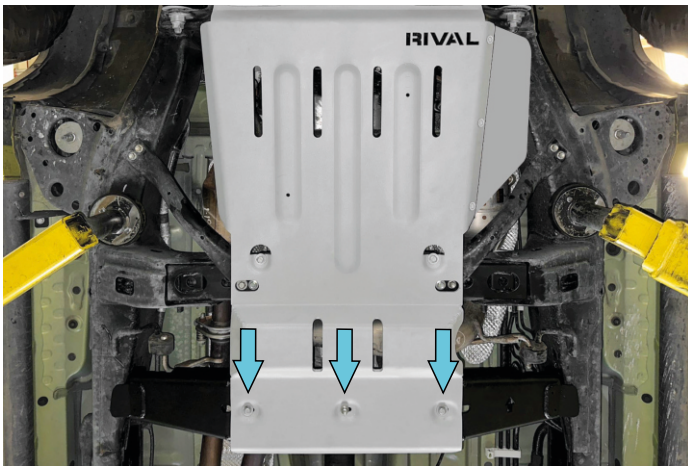

Fig.15
14. Secure the rear of the skid plate to the previously installed mounting bracket (item 3) using M8x30 bolts(item A) and M8 flat washers (item D) as shown in fig.15.